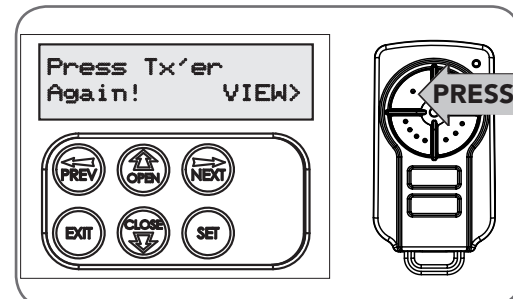

Fig 10.4
- c. Press the same transmitter button again as prompted by the display (Fig. 10.4).